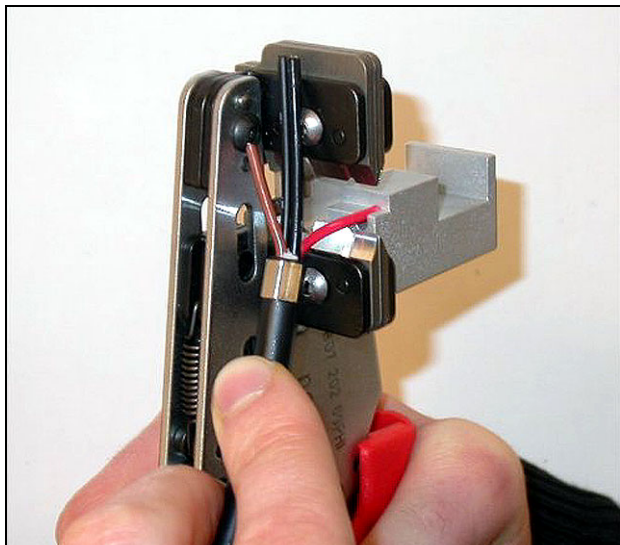

figure 45.11: Stripping a copper wire
- 10 Push the copper wires to the mechanical stop of the stripping tool (tool 5, refer to figure 45.11). Remove the red and brown insulations from the copper wires.